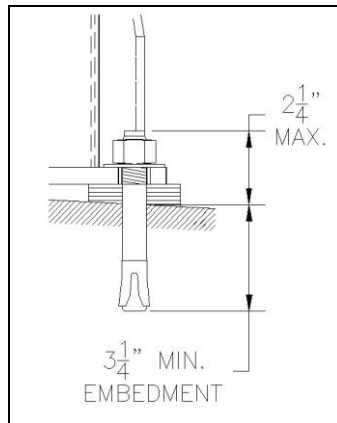

Figure 22. Anchor depth
7. Torque all anchor bolts to 150 ft-lbs. (203 Nm), continually checking that the column is level as you proceed. If anchor bolts do not tighten to 150 ft-lbs. OR project more than 2 1/4" above the concrete surface (**Figure 22**), the concrete should be replaced by an appropriate concrete pad. (*Consult Product Manufacturer / Supplier for further details*).